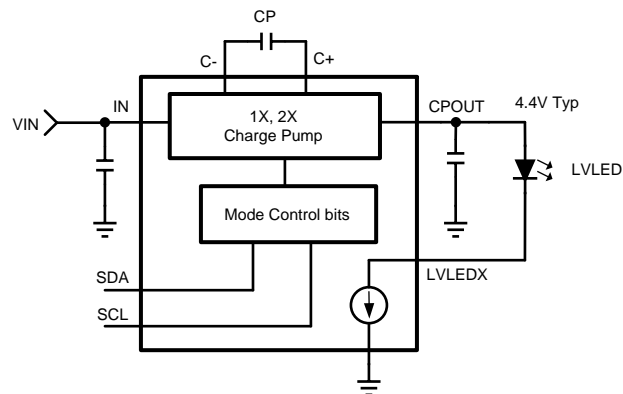

Figure 23. Integrated Charge Pump
The LM3533 features an integrated (2x/1x) charge pump capable of supplying up to 150 mA. The fixed 1-MHz switching frequency allows for use of tiny 1- μF ceramic flying capacitors (CP) and output capacitor (CPOUT). The charge pump can supply the power for the low-voltage LEDs connected to LVLED1 to LVLED5 and can operate in 4 different modes: disabled, automatic gain, 1x gain, or 2x gain (see Figure 23).